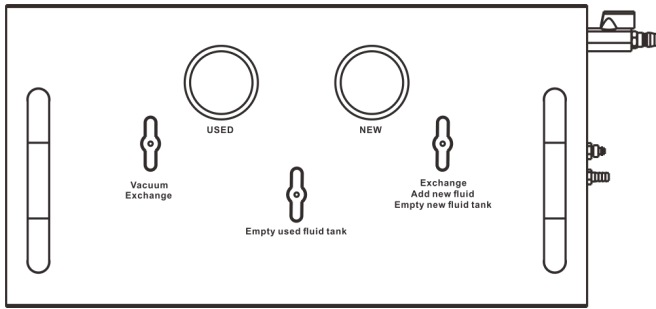
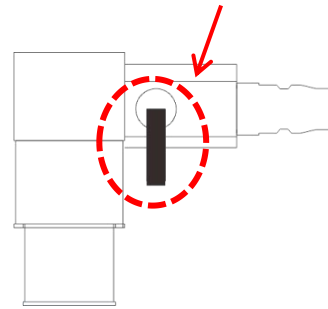

Fig. 1
Fig. 2
1. Initial position ( Fig.1, Fig. 2 ) :
① Panel